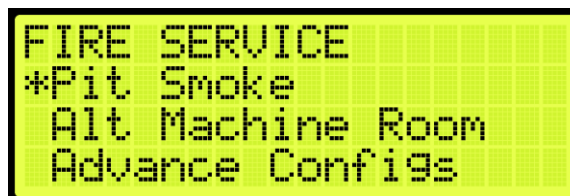

Figure 596: FIRE SERVICE Menu – PIT Smoke
- From the FIRE SERVICE menu, scroll and select PIT Smoke (See Figure 596).
2. From the FIRE SERVICE menu, scroll and select PIT Smoke (See Figure 596).